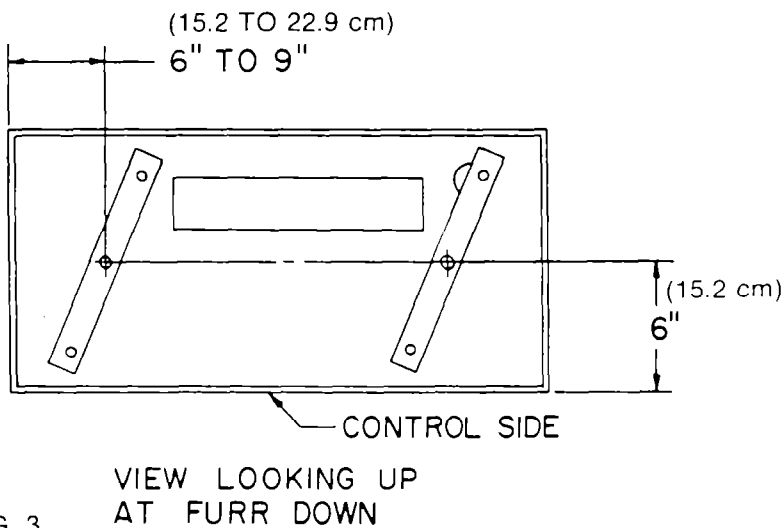

FIG. 3
2. Depending on mounting surface, use either prepunched holes in the hood flanges at the top or the mounting brackets included with the hood to secure the hood to the furr down. If mounting brackets are used, screw the brackets to the furr down six to nine inches from the hood ends. Use the center hole to mount the bracket initially. Leave the center screw loose enough to rotate on the center screw. Rotate the brackets as shown in Fig. 3, and lift the hood canopy (without black fan box assy.) into position. Rotate brackets until they are supporting the hood canopy. Attach remaining screws.